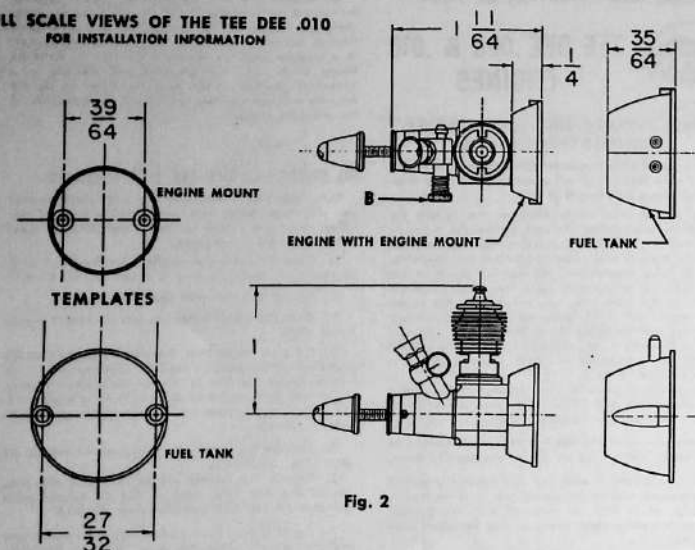

Fig. 2
1. Mount the engine in the plane, or if you want to give it some running first, mount it on a suitable mount. Do not hold the engine directly in a vise. Use the appropriate template from either Fig. 2 or Fig. 3 to drill mounting holes.
1. Close the carburetor needle valve B—Fig. 2 or 3, by turning it clockwise until it stops. Do not force it.